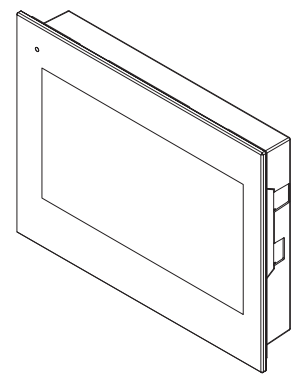

Fig. 12
5. The video intercom is installed (**Fig. 12**), power up the system and check that it works correctly.